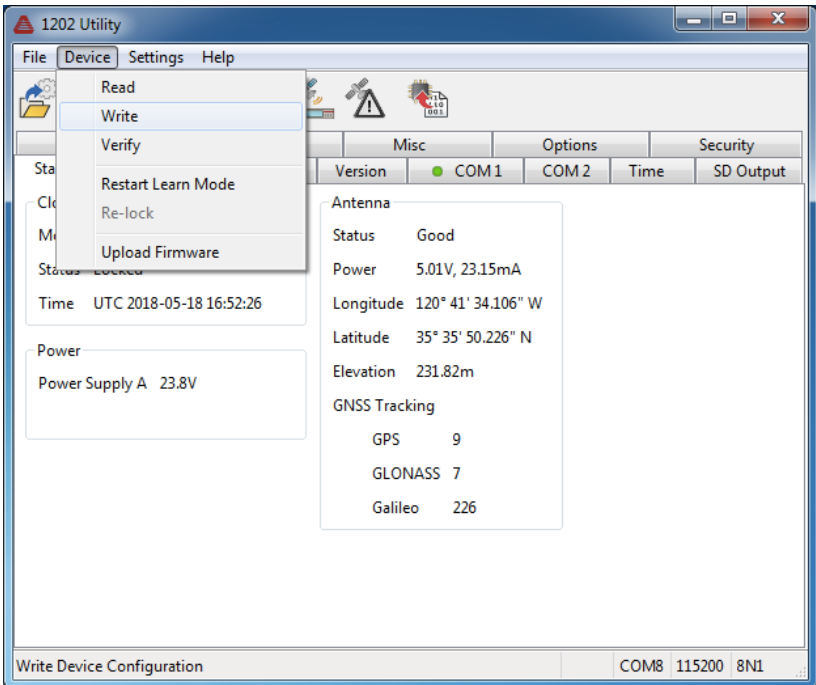

Figure 7.23: Uploading a Configuration File to another 1202B/C
5. Select Device > Write, or click the Write icon, to upload the saved configuration to the new clock. See Figure 7.23.